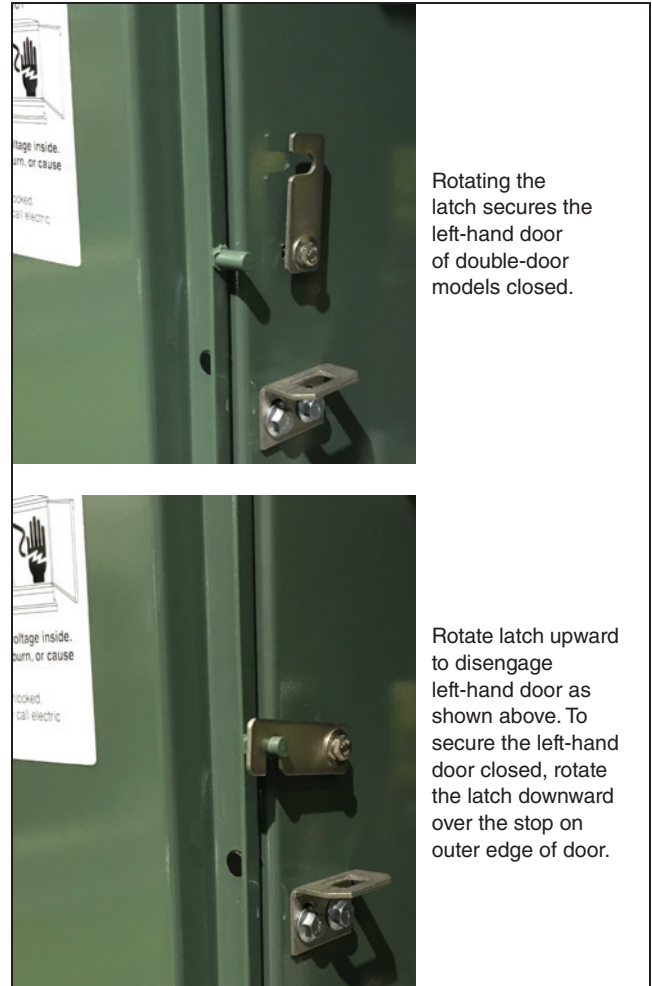

Figure 3. The left-hand door retainer.
STEP 3. *For double-door models of pad-mounted gear:* The left-hand door is secured closed by a rotating latch and is overlapped by the right-hand door which is equipped with the Penta-Latch Mechanism. The left-hand door can be opened after opening the right-hand door and disengaging the rotating latch. To disengage the latch, rotate it upward. See Figure 3 on page 13.
STEP 1. Close the left-hand door, where applicable, and secure it with the latch by rotating the latch downward over the stop on the outer edge of the door. See Figure 3. The right-hand door of double-door models of pad-mounted gear is equipped with the Penta-Latch Mechanism that latches automatically when the door is closed.